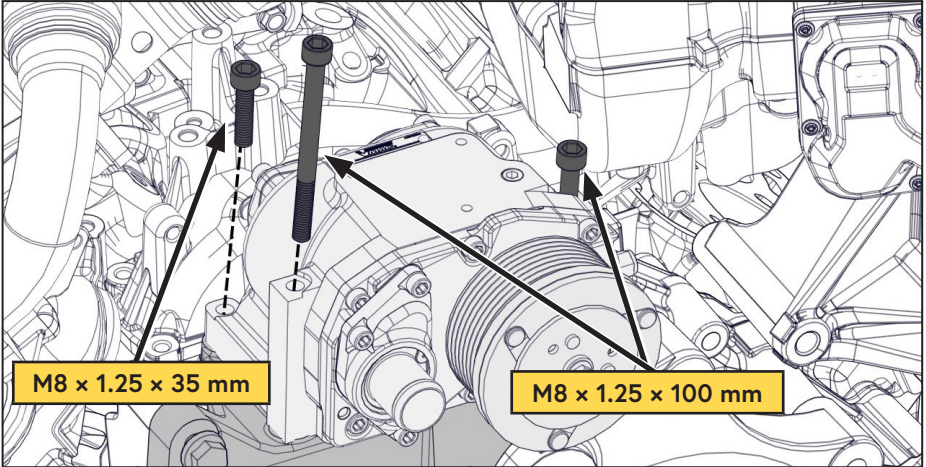

Figure 13 — Mount compressor
- Install the compressor onto the VMAC main bracket (Figure 13).